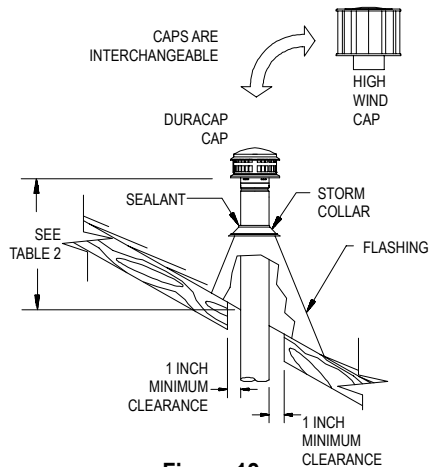

Figure 12
10. Terminations. Where the Pipe Sections pass through the roof, a hole must be cut to provide a minimum clearance (air space) of 1 inch between the Pipe and construction materials. Straight lengths of pipe are run up above the roof a minimum of 1-foot. **(Refer to Table 2)** A Roof Flashing is placed down over the pipe, and adjusted so it fits tightly against the roof, with the Pipe Section held in a position maintaining the 1 inch minimum clearance from combustibles. The Flashing is then nailed to the roof. The roofing material (shingles, asphalt paper, etc.) should overlap the top edge (uphill side) of the Flashing. A non-hardening sealant should be used around the edges of the flashing base where it meets the roof. Non-hardening sealant is placed around the joint between the Flashing and the vertical Pipe Section and the Storm Collar is then placed over this joint, to make a watertight seal. **(Figure 12)** Add sufficient Pipe Sections to attain the minimum height specified in **Table 2** (see next page). To connect the Termination Cap to the pipe, hold Cap by its collar, slide collar over locking lugs of pipe, and twist-lock clockwise. Termination Caps of diameters greater than 16 inches do not twist-lock, but are affixed with sheet metal screws.